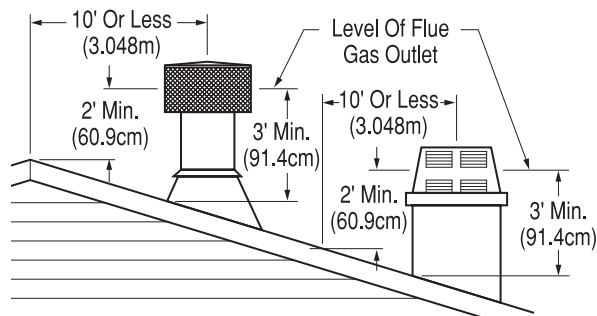

Figure 20- 10 Foot Rule
All chimney terminations must extend a minimum of 3 feet above the highest point where it passes through the roof and must be at least 2 feet above roof with a 10 foot horizontal span (see Figure 20).
5. Add next sections of pipe until end penetrates roof line. Check to see that proper clearances are maintained. Extend chimney by adding sections of double wall pipe until pipe is minimum of 30" above highest point of roof cutout. Termination and chimney must extend a minimum of 36" above highest point where it passes through the roof (see 10-Foot Rule and Figure 20, page 10).